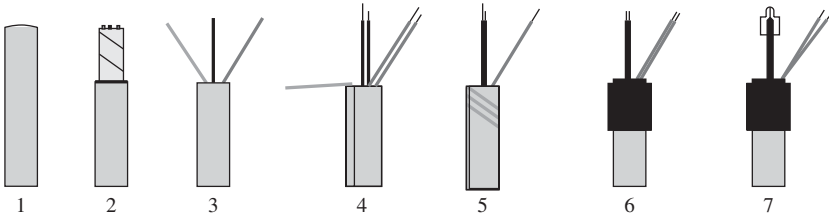

Figure 4-4g
Figure 4-4g is a method for terminating a shielded twisted-pair cable for an RS-232 loop network.
3. Remove the shield and separate the wires. In Fig. 4-4g the light gray wire is the shield, the black wire is the R (receive data), and the dark gray wire is the T (transmit data).